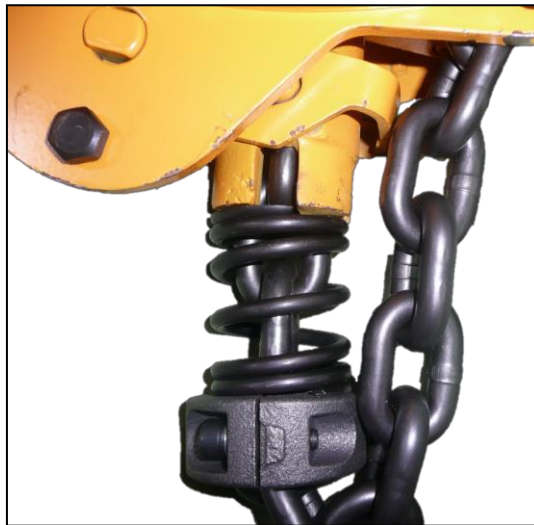

Figure 6.5.5
- In some hoist models even when the chain container is used, the free end of the chain is attached to the hoist body as shown in Figure 6.5.5. Depending on the hoist size and capacity, install the chain stopper approximately 7 to 12 links from the free end and make sure the chain remains free of twists.